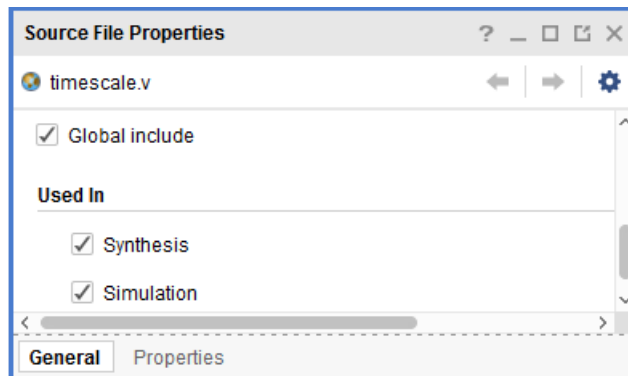

Figure 1-8: Source File Properties Window with Global Include
2. Check the **Global include** checkbox in the Source File Properties window, as shown in Figure 1-8.